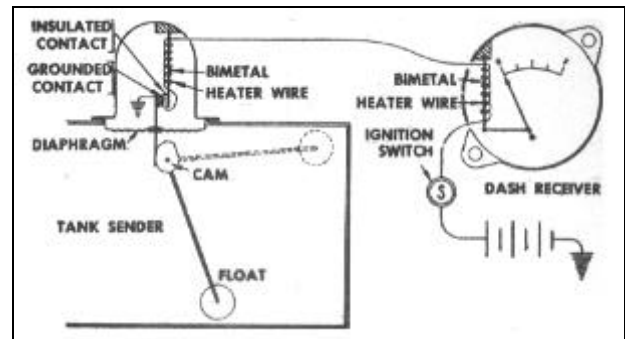
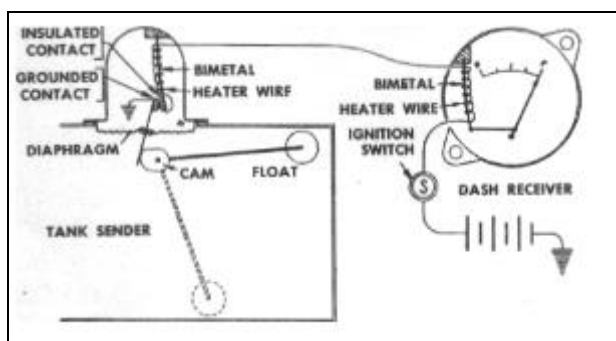

FIGURE 48
FIGURE 49
This electrical device consists of a sending unit mounted in the fuel tank and a receiving unit mounted on the instrument panel. Each unit incorporates a bi-metal element over which a heating coil is wound. Refer to Figure 48.
1. Disconnect the lead of the tank unit on the car and connect this lead to the tank test unit and ground same to the car frame. Turn on ignition switch and operate tank test unit float by hand. With the float of the test unit at the bottom position the car dash unit should register at the bottom mark on the dial as in Figure 48. Move float rod up to top position and the car dash unit should move to top mark on the dial, as shown in Figure 49. Allow one minute for dash unit pointer to come to rest.